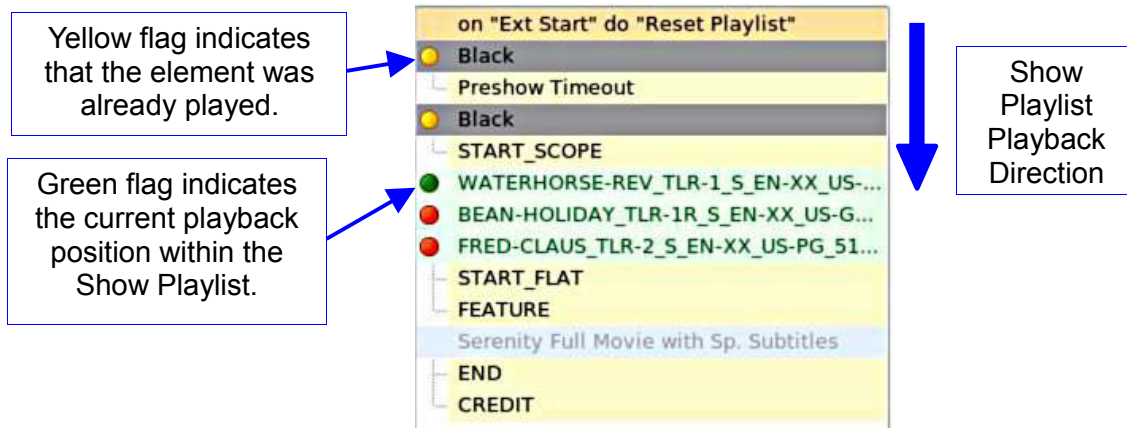

Figure 72: Show Playlist Progress List-box
- The Playback window (the right part of the window) contains the Show Playlist progress list-box. The list-box displays the current playback position within the Show Playlist using a green flag. The elements already played are flagged using a yellow mark whereas the elements that are not played for the moment do not have any flag at all (Figure 72).